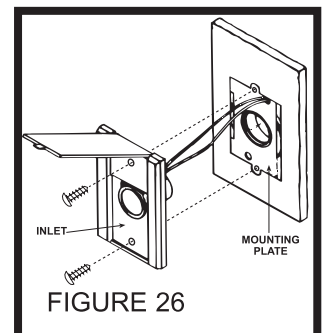

FIGURE 26
5. Refer to Figure 26. Place inlet into mounting bracket and secure.
See Figure 26
2. Align inlet mounting holes with holes in mounting plate. See Figure 26.
3. Place inlet into mounting plate and secure with two provided screws. See Figure 26.